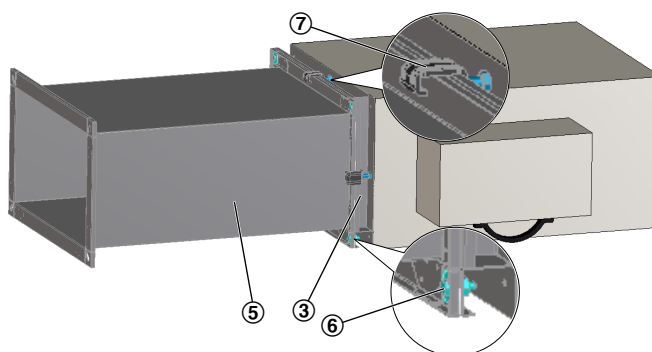

Fig. 5: Connect the duct
3. ▶ **Corners:** Attach the duct ( Fig. 5 /5) to the connecting frame ( Fig. 5 /3) with the use of M8 screws ( Fig. 5 /6), washers and nuts.
**Sides:** Attach the duct to the subframe with the use of duct clamps ( Fig. 5 /7) or alternatively drill and bolt together ( $\leq 150$  mm spacing)